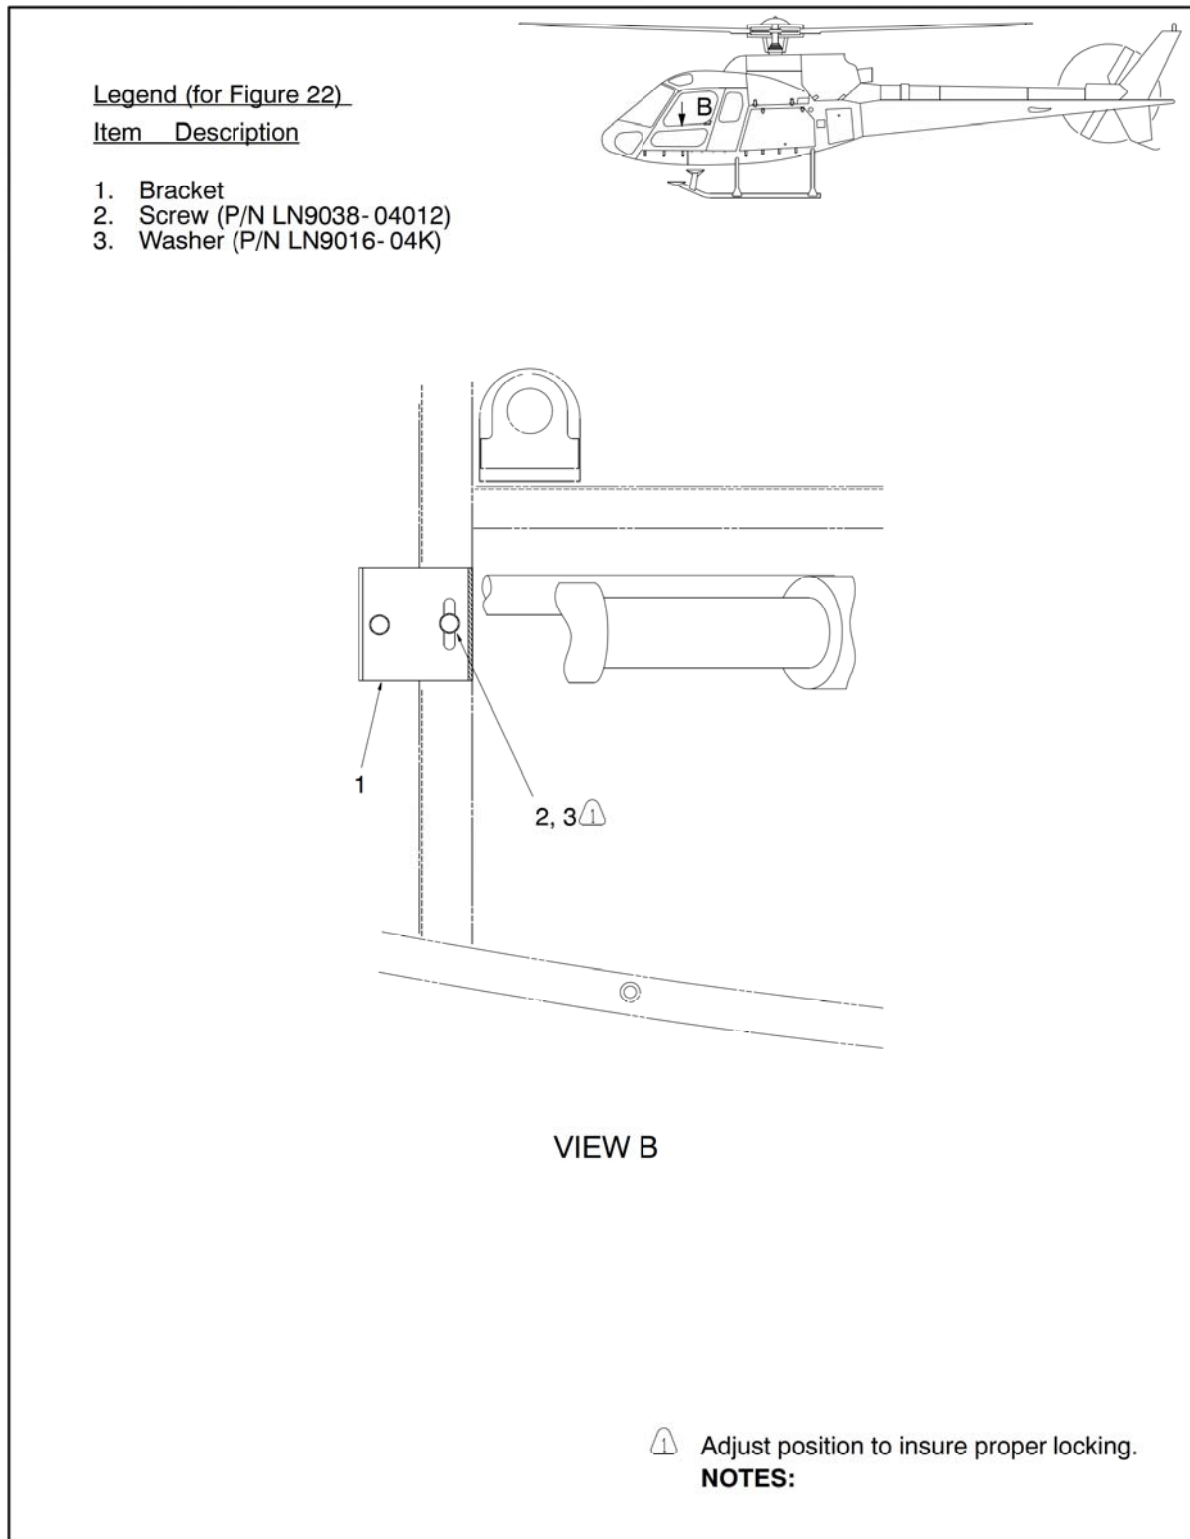

Figure 22 Collective Lock Installation - Top View (AS 350 BA, B2 & B3)
The pilot must be able to lock the collective by pressing first the locking plate, (2) and then by pushing the collective lever down. The mechanism should engage automatically. For this reason, the locking plate must not pass the standoff (3, Figure 22) when pressed as shown above.